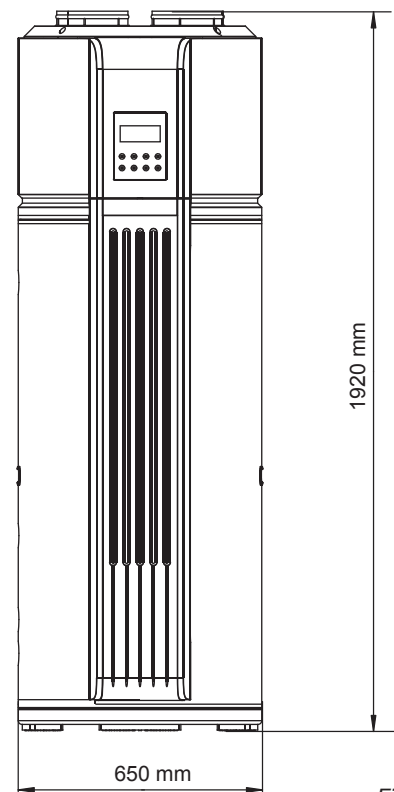
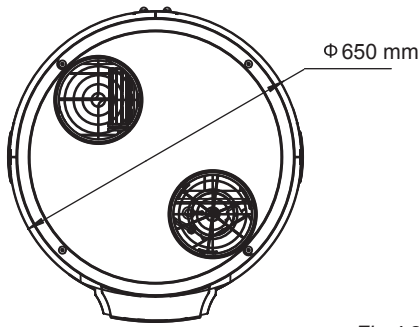

Fig.4-1
Fig.4-2
- Outline dimensional drawing(see Fig.4-1, Fig.4-2)